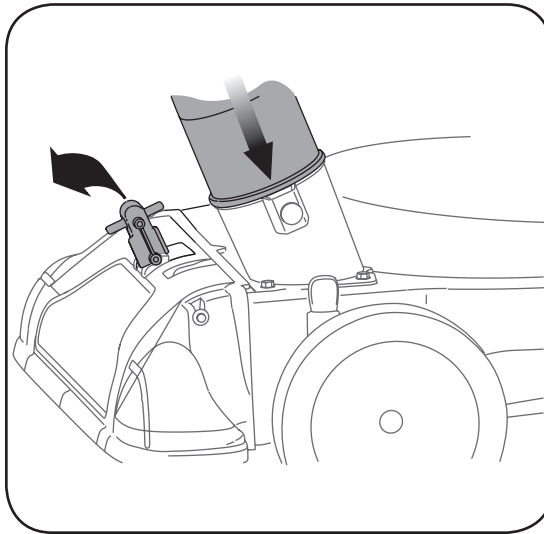

Figure 4-5
1. Place nozzle/hose vac handle in the bottom position on the nozzle to redirect vacuum to the hose assembly. See Figure 4-5.